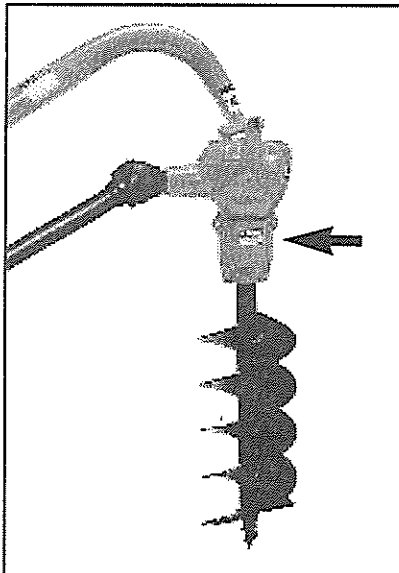

FIG. 7 - AUGER ADAPTER GUARD
**STEP 12:** Install the auger adapter shield halves around the auger adapter and secure to the gearbox housing with two 3/8 - 16 x 7/8 inch, Grade 5 bolts (PN 2339), two 3/8 - 16 x 1 1/4 inch, Grade 5 bolts (PN 1180), and four 3/8 inch - 16 nuts (PN 2168). (Refer to Figure 7.)